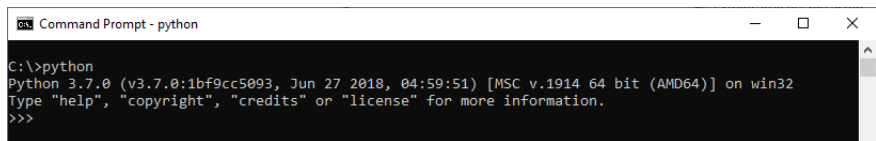

Figure 18 Python installation verification on command prompt window
- b On the root directory, type *python* and press <Enter>. See Figure 18.
- 6 On the command prompt window shown in Figure 18, you may optionally enter the following commands to install the 'NumPy', 'SciPy' and 'Matplotlib' libraries: